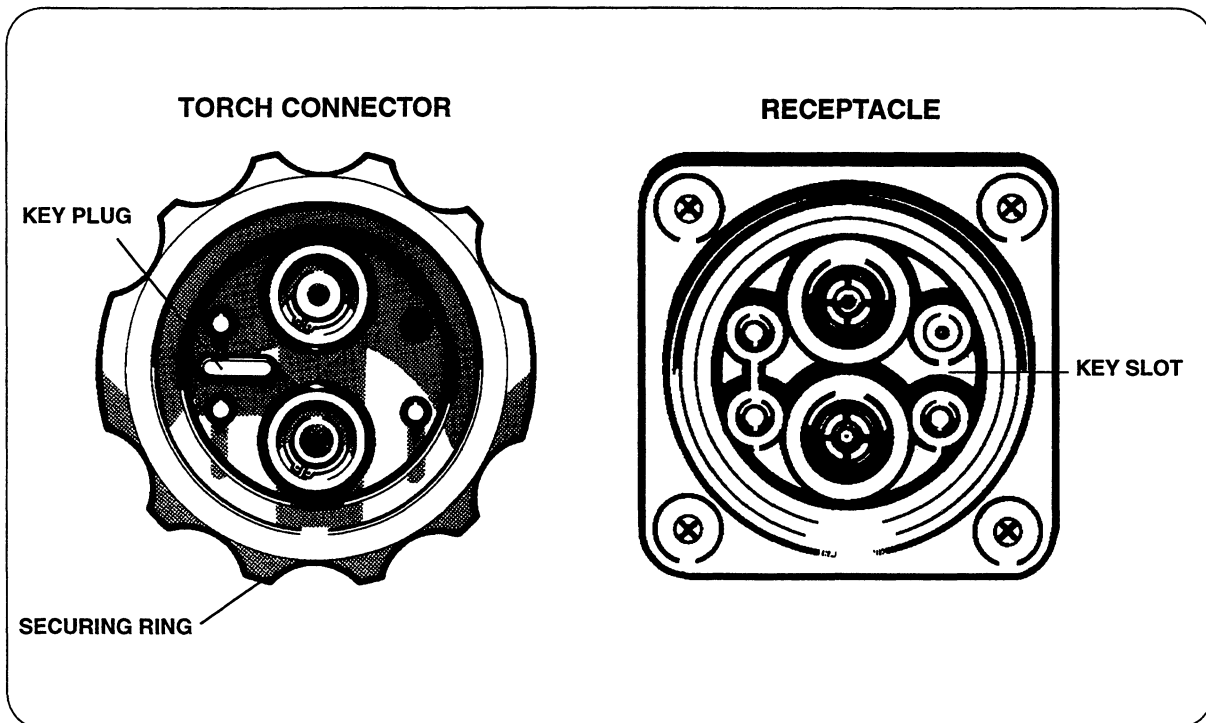

Figure 3-6 Quick Disconnect Alignment
1. Align the **TORCH CONNECTOR KEY PLUG** with the **RECEPTACLE KEY SLOT** (on the back of the power supply) and push it in until the pins seat. (Fig. 3-6)